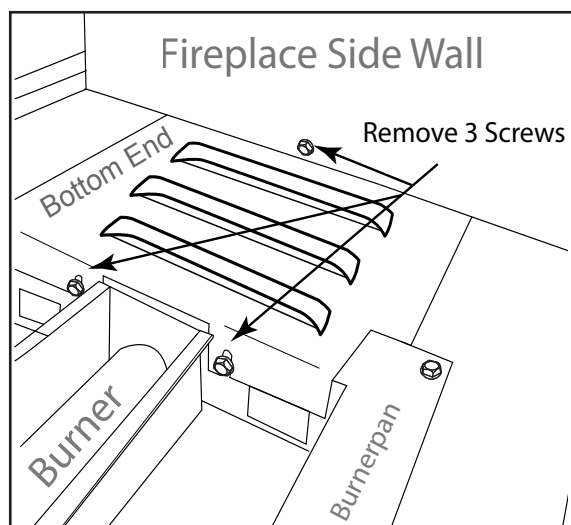

Fig. 2 Removal of burner pan screws.
**RECOMMENDATION:** Once the gas line is established it is recommended to remove the burner pan from the firebox until the fireplace is in the final stages and ready for the burner installation. Burner pan requires the removal of (4) screws at each corner of burner pan lip in addition to the (3) screws shown in Fig. 2.
**Step 2:** Remove the three (3) screws in the bottom end. Then lift the bottom end up and out from the side of the burner pan area. Fig. 2.
**Step 3:** Remove the four (4) screws (two on each end) out from the burner pan. They are located at the outer edge of the burner pan, on each corner (See Fig. 2).